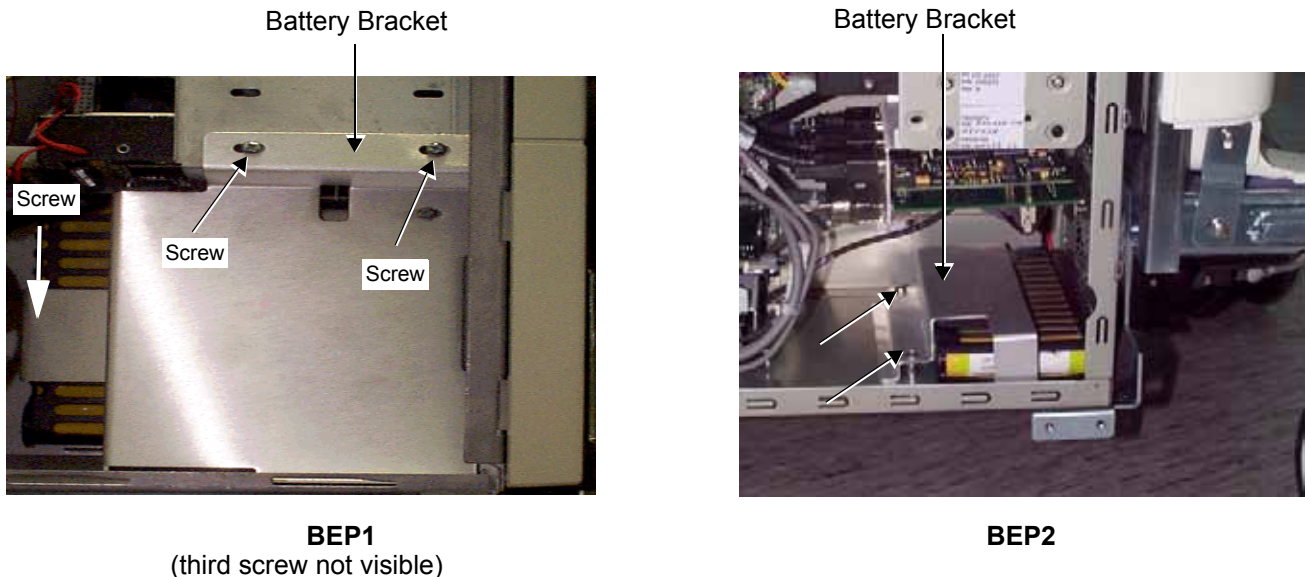

Figure 8-63 Plug & Scan Battery Bracket and Screws
- 4) Remove the screws that secure the battery bracket in position (see Figure 8-63 below - BEP1 has *three* screws; BEP2 has *two*); remove the bracket.
- 2) Mount the battery and bracket in its original location in the BEP, tightening the screws (two or three as shown in Figure 8-63 on page 8-70) to secure it firmly in position.